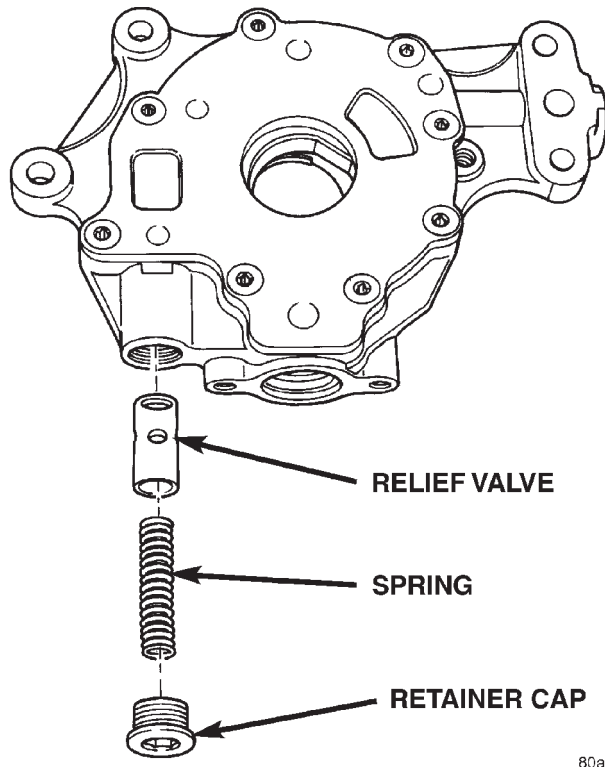
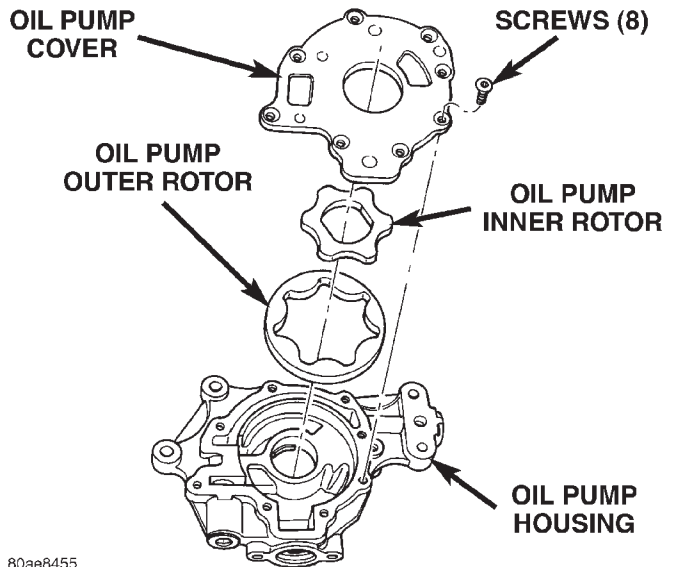

Fig. 87 Oil Pressure Relief Valve
Fig. 88 Oil Pump
CAUTION: Oil pump pressure relief valve must be installed as shown in (Fig. 87) or engine damage may occur.
(3) Remove oil pump cover screws and lift off cover plate (Fig. 88).
(4) Remove pump rotors.
(5) Wash all parts in a suitable solvent and inspect carefully for damage or wear.
(6) Tighten cover screws to 12 N·m (105 in. lbs.) (Fig. 88). Tighten oil pressure relief valve retaining cap to 12 N·m (105 in. lbs.) (Fig. 87).